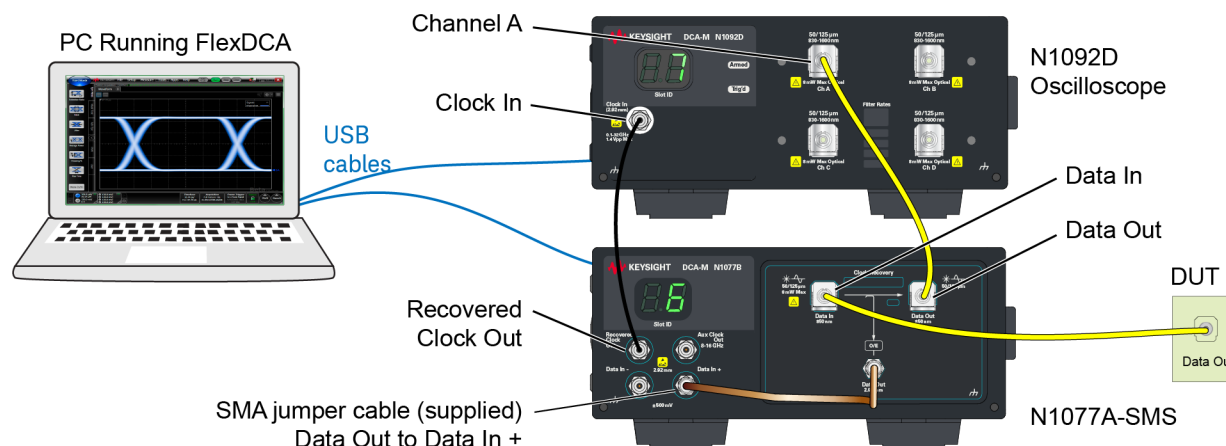

Figure 24. Typical Connection Setup
2. Connect the N1076/7A as shown in **Figure 24**. If connecting to an DCA-X, be sure to connect the USB cable to the DCA-X's *rear-panel* USB port.